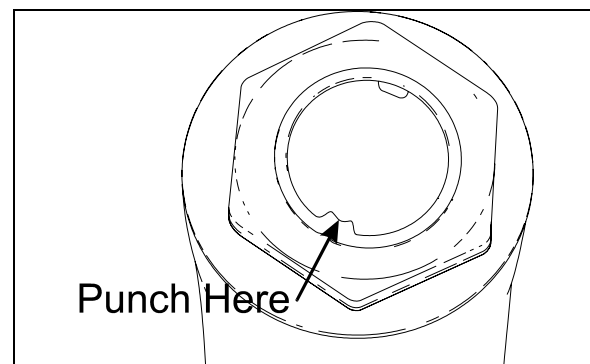

FIGURE 17: FIXING NUT PUNCH MARK
3. Lock nut with sector shaft using a punch mark into the groove (Refer to figure 17).